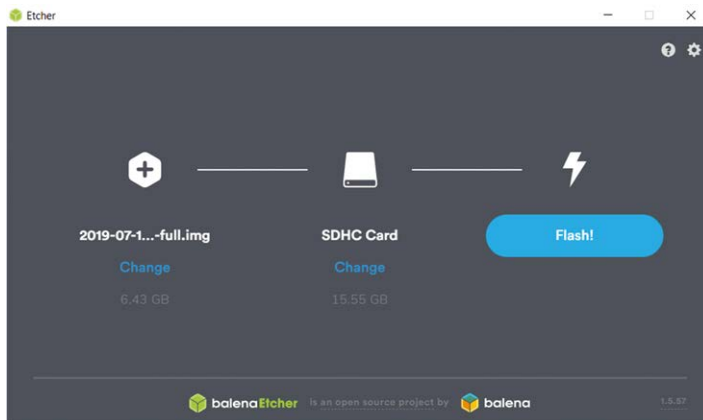

Figure 3.5 Click Flash to flash the disk image
- Click **Flash** (see Figure 3.5). This may take several minutes, wait until it is finished. The program will then validate and unmount the micro SD card. You can remove your micro SD card after it is unmounted.